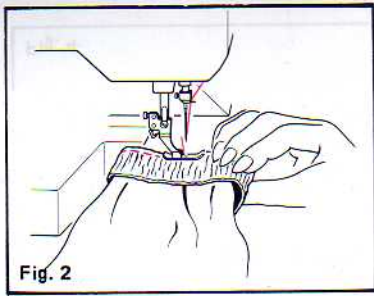

Fig. 2
Presser foot pressure is vital for straight seams, uniform stitch length and even handling of both layers of fabric. To adjust pressure on presser foot (Fig. 2) turn dial of pressure regulator (31). It has markings of 0-6. The higher the number, the higher the pressure. You will probably want to have the regulator set at 3 for most of your sewing. Increase pressure for light weight fabrics, decrease for heavy.